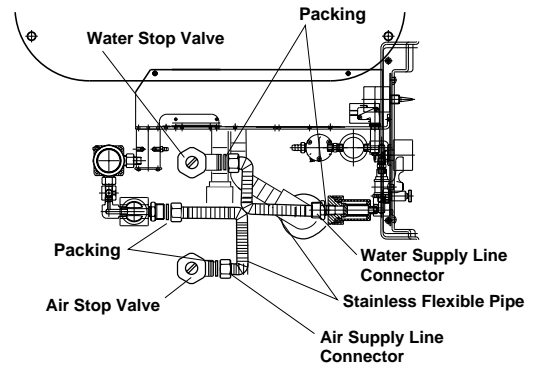

Fig.3-6-2 Water and Air Supply Lines Connection
(2) Water and Air Supply Lines Connection (Fig.3-6-2)